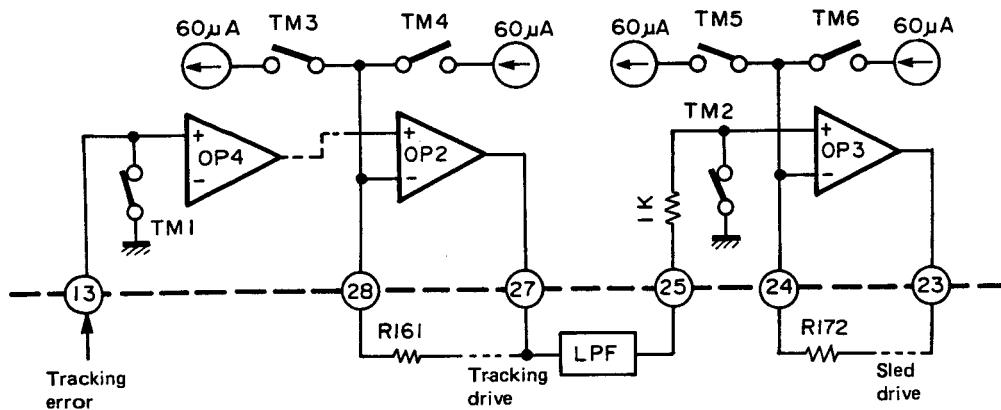
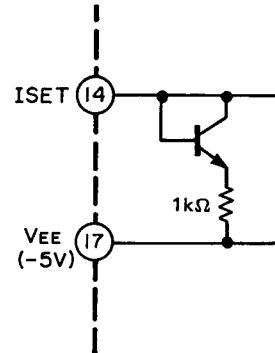

Fig. 7-14 TM1~TM7
Fig. 7-15 ISET terminal
The circuit composition is shown in Fig. 7-14. TM1, TM2 make servo ON/OFF, and TM3~TM6 produce jump pulse and fast feed pulse. See truth value table for details.
Figure 60µA is observed in Fig. 7-14. This value is of the case where 240µA is fed to ISET (14) terminal like SF1. The circuit of (14) terminal is as shown in Fig. 7-15. Therefore, the potential is around (-)VEE + 0.9V.
1) DIRC (26) terminal and single track jump